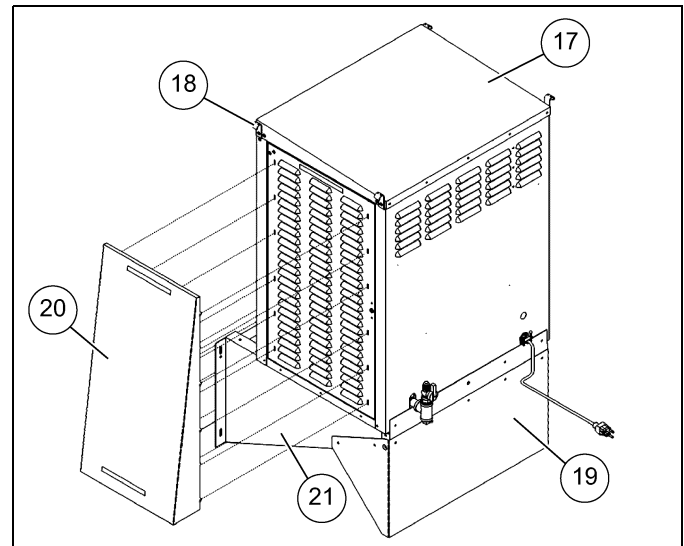

Figure 3I
14. Insert tabs of door cover (3) in slots on heater door and slide down. This will lock the cover in place on the door. (See Figure 3I.) (Repeat this step for the second door.)